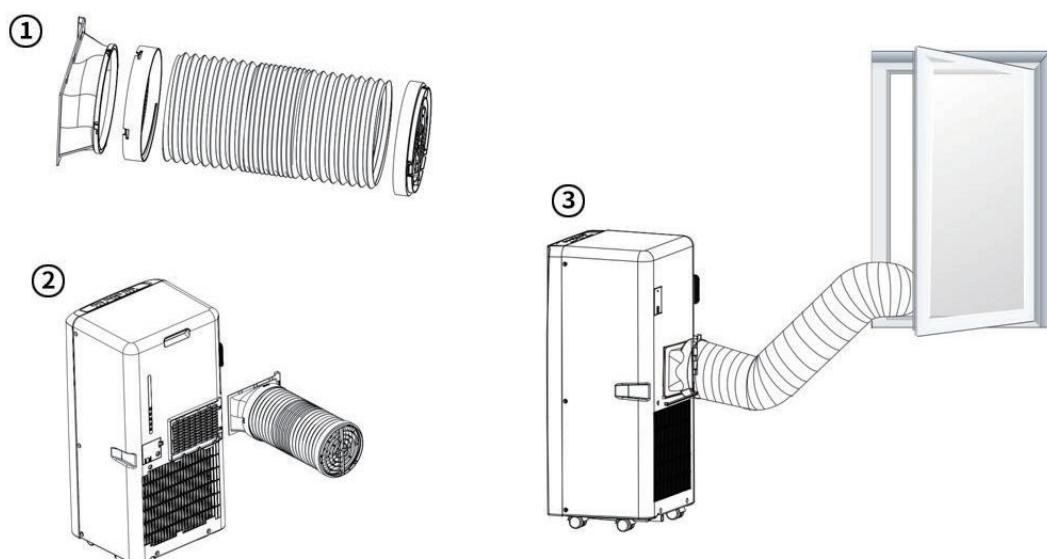

Fig.5
2. Insert the square fixing clip into air outlet at back of the air conditioner (see Fig.5).